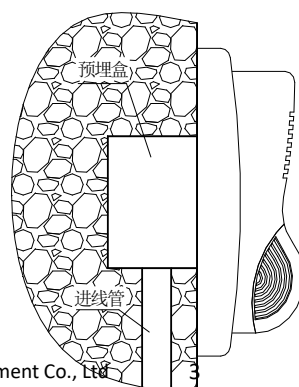
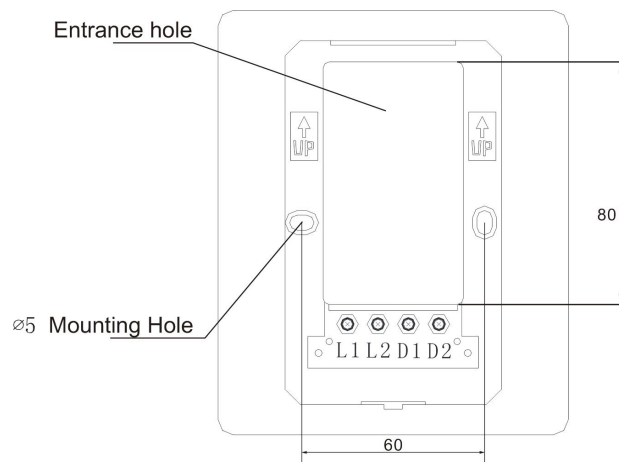

Fig.2 Pre-embedded Diagram of Incoming Wire Duct
Fig.3 Diagram of Wiring Terminals of Sounder Strobe TCSG5270
5.1.3 The sounder strobe is installed with pre-embedded pipes, the bottom box is installed on the 86H50 embedded box with a distance of 60mm (see Figure 3). The installation diagram is shown in Figure 2.
5.2 The diagram of the wiring terminal is shown in Fig. 3.